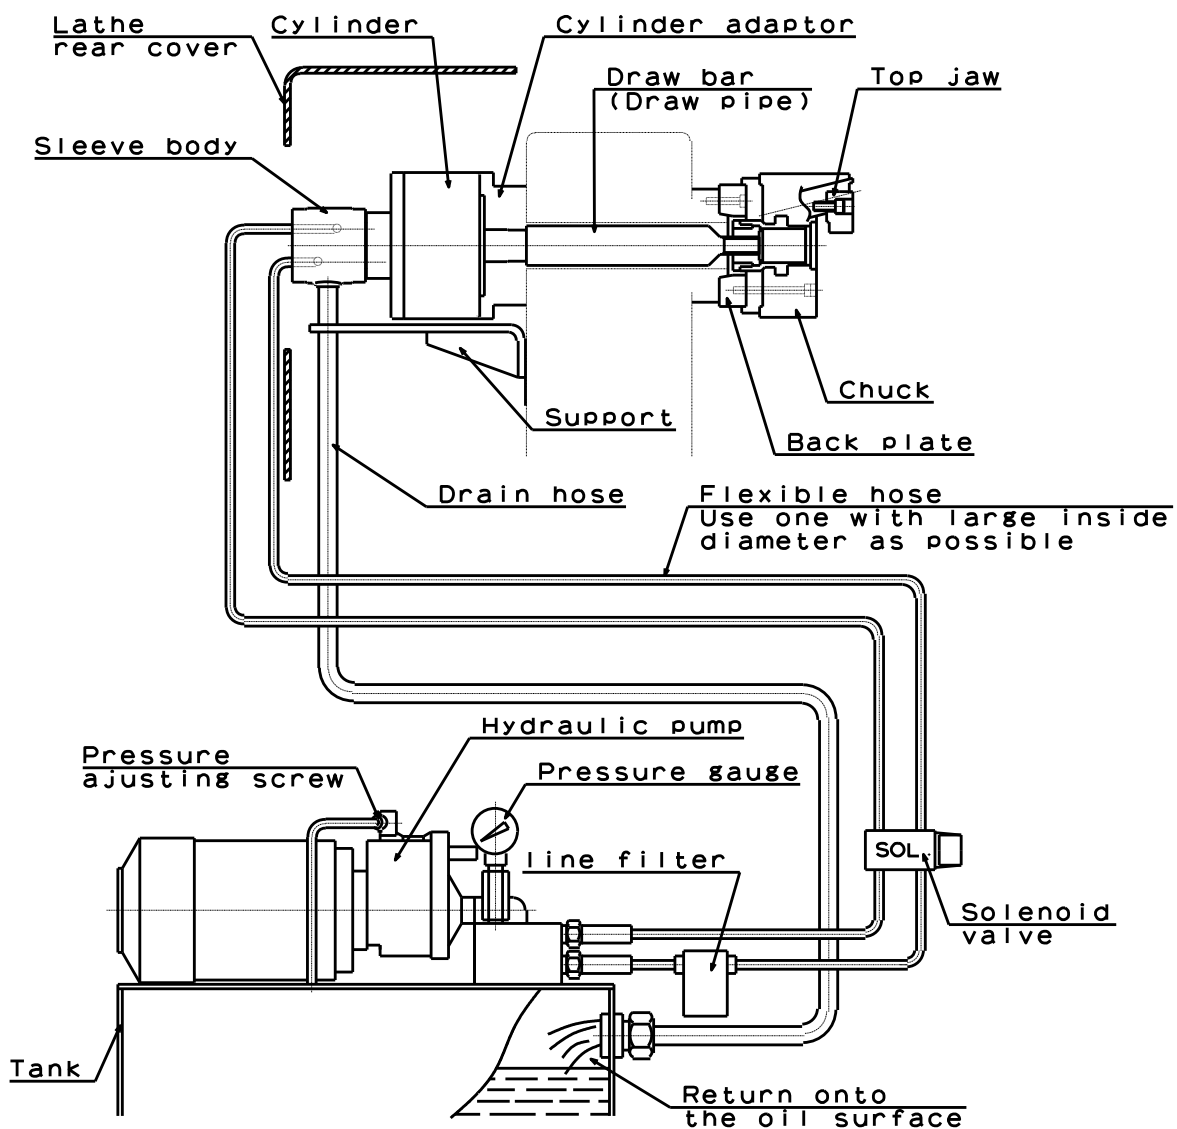

Fig.8
- The end of the hose is physically above the oil level. (Refer to Fig.8)